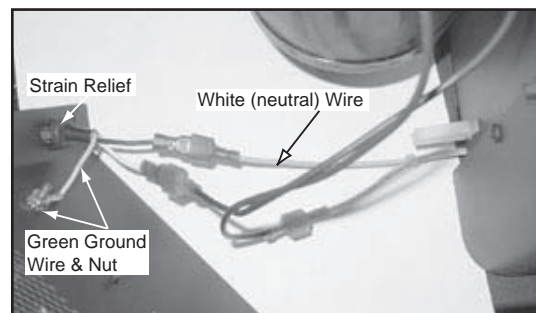

Figure 43.5
10. On the left side panel attach the power cord strain relief into the hole that is located on the lower left. Attach the ground terminal to the stud that is located nearest the power cord. **Figure 43.5.**
11. Attach the white lead (neutral) directly to one of the leads coming off the blower. Attach the other blower lead to the female spade connector to the harness that is routed under the unit. Attach the male spade connector on the harness to the black power wire (line). Route the wires into the wire clip that is located on the blower mount plate. **Figure 43.5.**